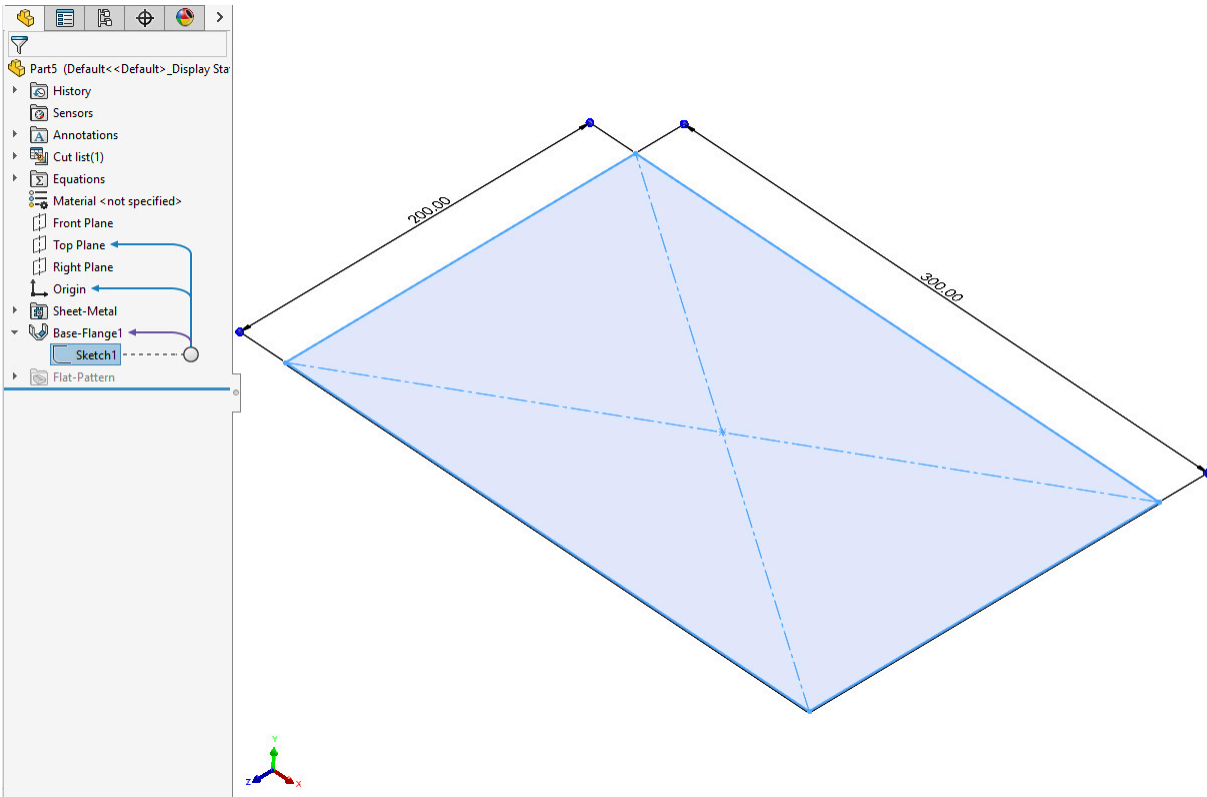

Figure 2.2: Creating a 200 x 300 mm Base Flange
2. The material Thickness should be 1 mm, with a Bend Radius of 1 mm (*Figure 2.2*).